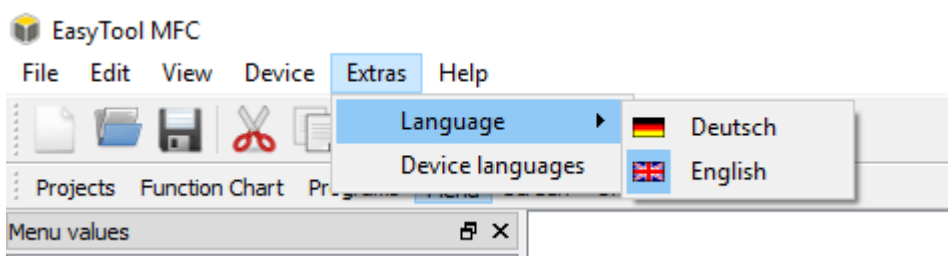

Figure 9 Menu Item Extras ► Language
- The *Language* menu item (Figure 9) is used to select the language for the EasyTool MFC. After the selection has been made, EasyTool MFC is prompted to restart. Language switching only works after a restart. If the prompt to restart is ignored, EasyTool MFC continues to work with the previously selected language.